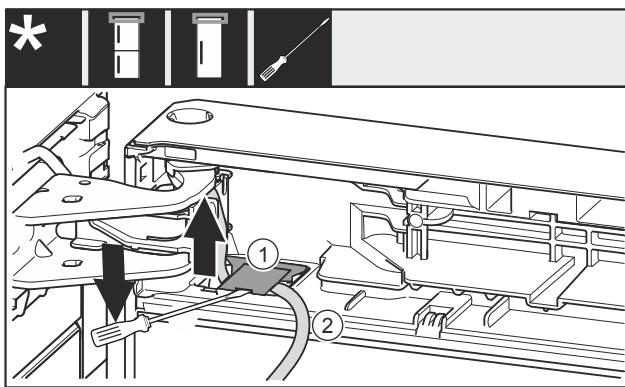

Fig. 24
- ▶ Use the screwdriver to lift up the cover Fig. 24 (1) and pull it out.
- ▶ Pull out the cable Fig. 24 (2).